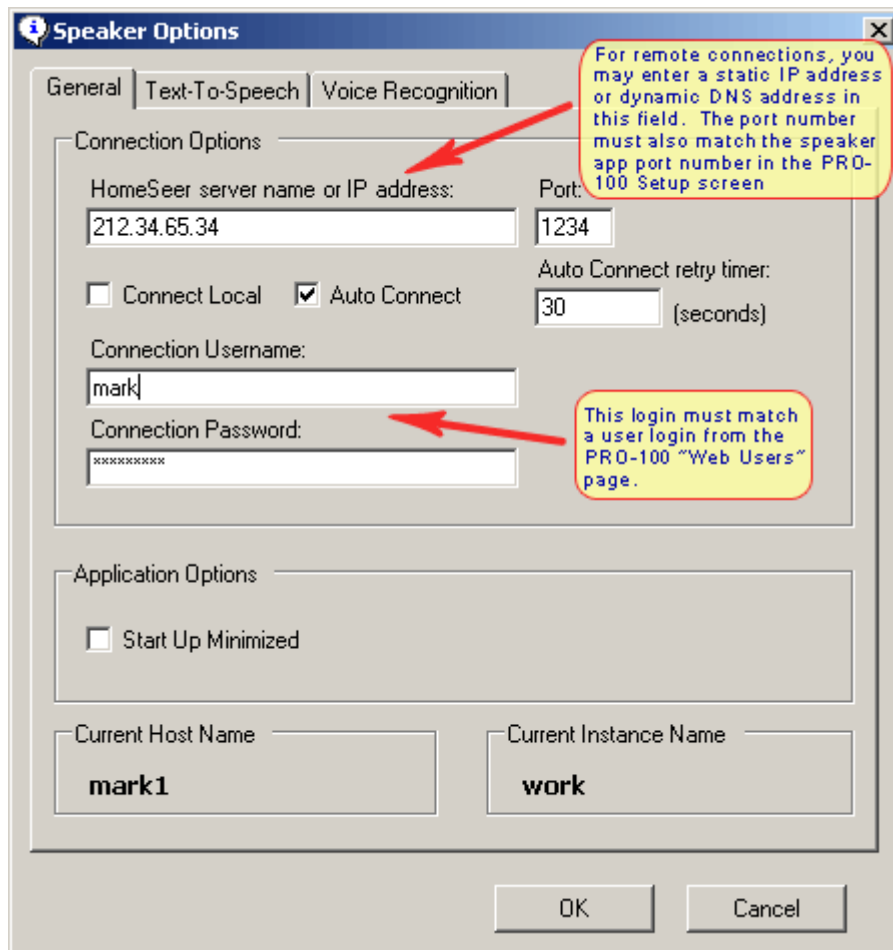

Figure 9: Speaker Client Options Screen
- 3) Run the speaker application client on the remote screen and open the "Options" screen (see Figure 9 below). In this screen, enter the static IP address or dynamic DNS address of your HomeSeer PRO-100. **IMPORTANT: If the homeowner uses conventional broadband service, their IP address will likely change from time to time. In this case, it is recommended you establish a dynamic DNS address for the PRO-100. There are a number of dynamic DNS services to choose from on the internet.**